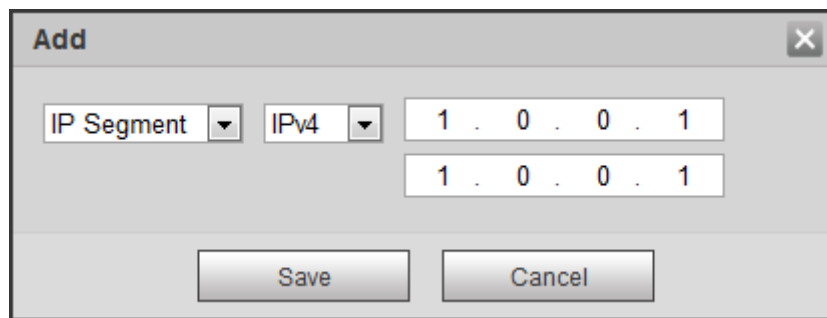

Figure 5-140
- Edit: Click it to edit start address and end address. See Figure 5-140. System can check the IP address validity after the edit operation and implement IPv6 optimization.